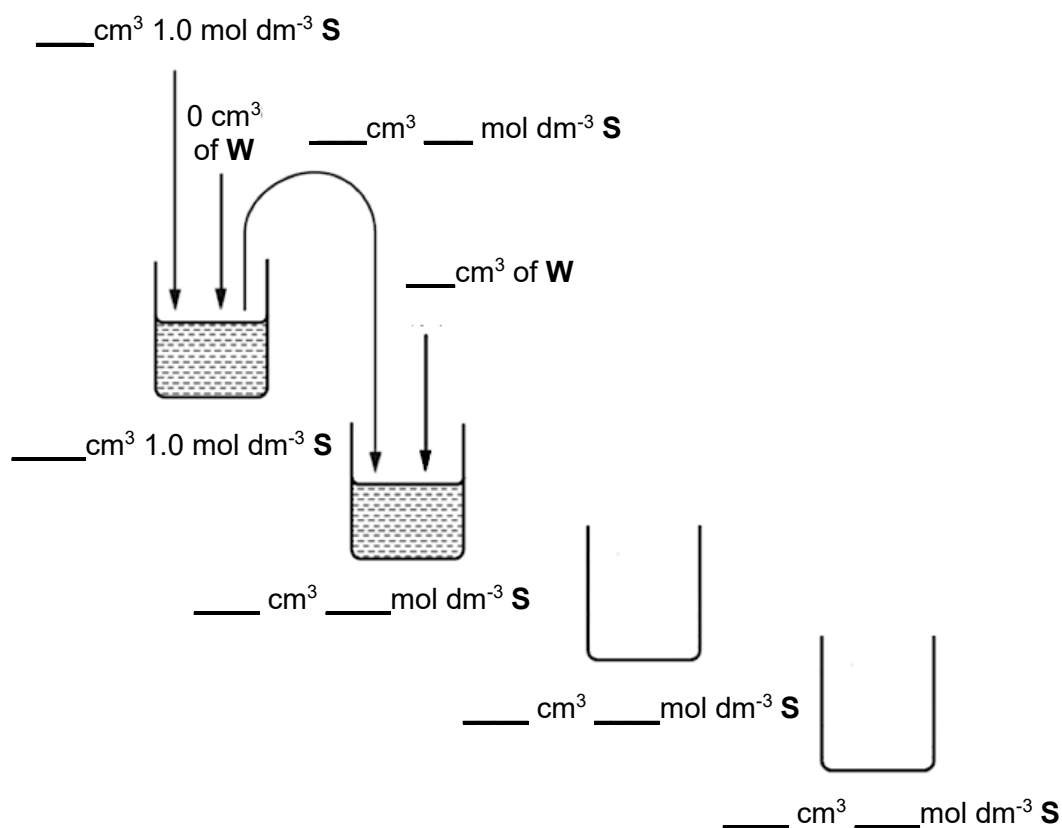

Fig. 1.1
- (a) Complete Fig. 1.1 to show how you will dilute **S**.